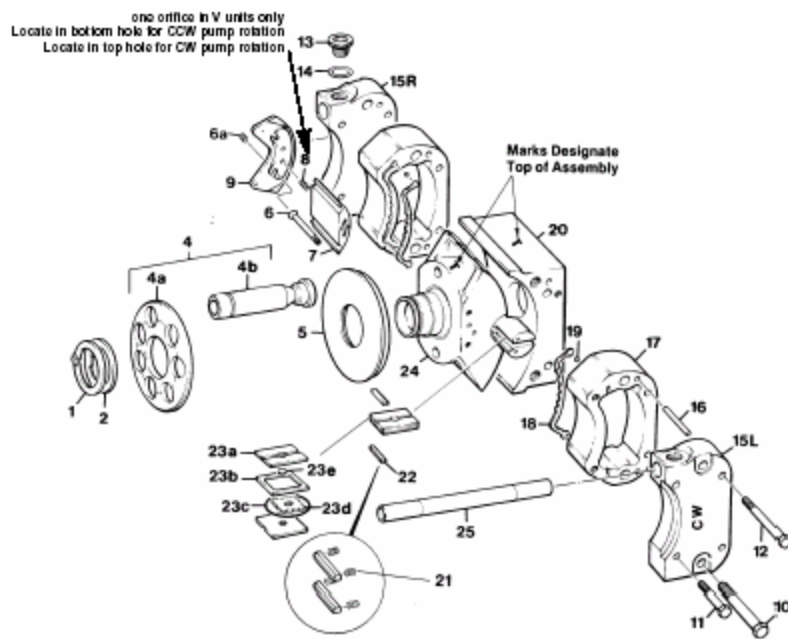

Figure 3
**PARTS LIST FOR FIGURE 3**
items 6 through 24, figure 3
**SAE 127-2 (C) flange**
item 4 figure 3
See Figure 3. Position the cradle (20) on a clean flat surface with the large flat area down.
Install assembled cartridge in slot in cam as indicated in figure 3. Repeat on opposite side of cam.
For "P" and "D" units, install two orifice screws (8) in the servo stem (7). For "V" units, install one orifice, as indicated in Figure 3.